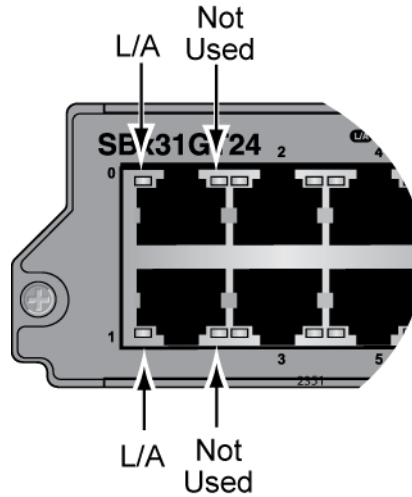

Figure 13. Port LEDs on the AT-SBx31GT24 Line Card
**LEDs** Each port on the AT-SBx31GT24 Line Card has two LEDs, but only one of them is used. The LEDs are shown in Figure 13 and described in Table 7.